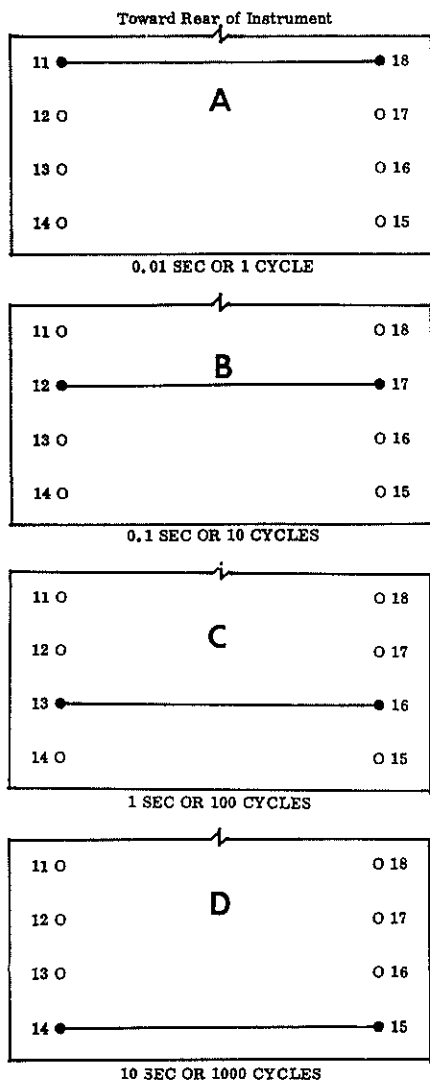

Figure 6. Time Base or Number of Cycles Selection
Time Base Selection. Jumper between pins of program header as shown in figure 6"A" thru 6"D" to attain desired time base.
Selection of Number of Cycles over which Measurement is Averaged. Jumper between pins of program header as shown in figure 6"A" thru 6"D" to attain desired number of cycles.
4. Jumper between pins of program header as shown in figure 6"C".